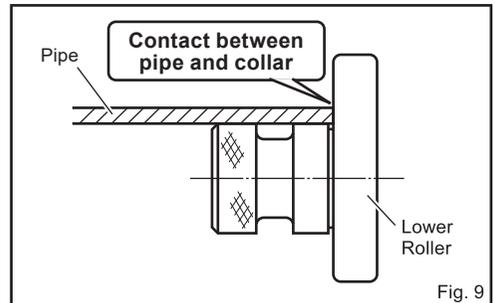

Fig. 9
- Position the pipe so that the end contacts the collar of the lower roller. If the pipe end detaches from the collar, the groove will not be right. (Fig. 9)